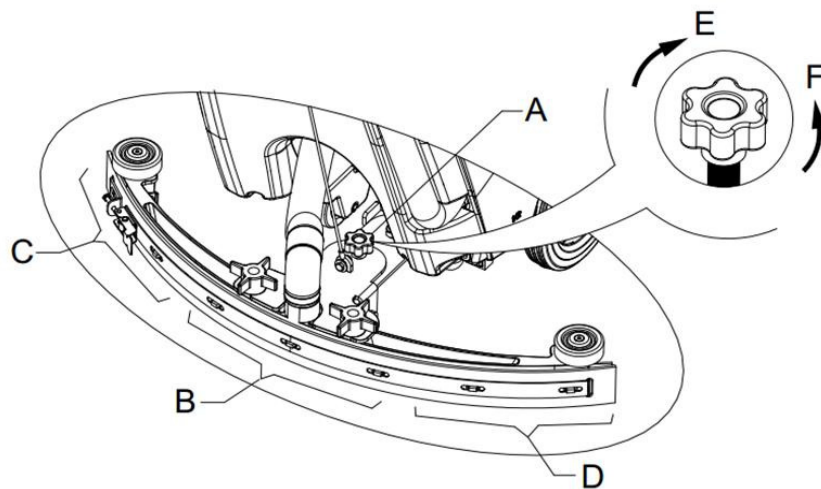

Figure 9
10. Adjust the squeegee through the adjusting handle (A) of the squeegee (see **Figure 9**).